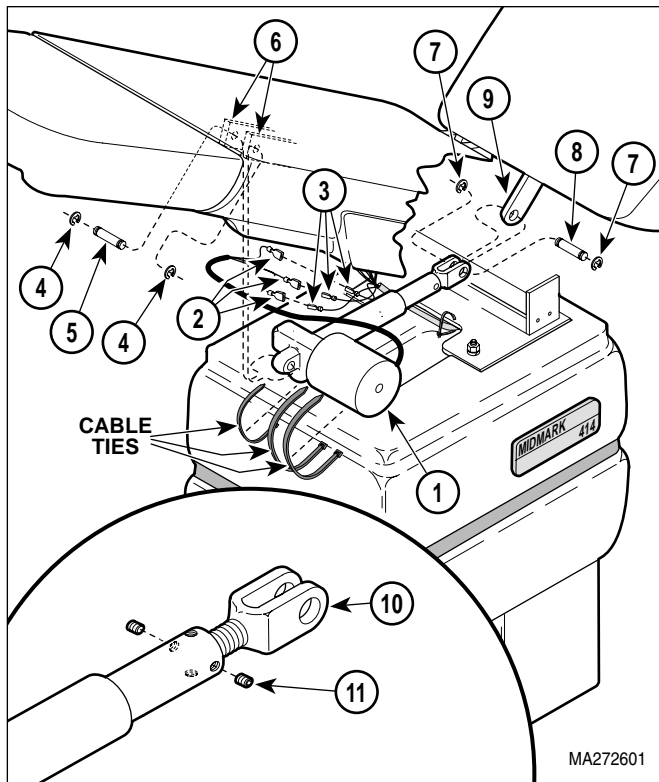

Figure 4-19. Back Actuator Assembly Removal / Installation
- (3) Unplug power cord from wall outlet.
- (4) Cut three cable ties securing wires to motor of back actuator assembly (1, Figure 4-19).
- (5) Tag and disconnect three tilt actuator wires (2) from three wires (3).